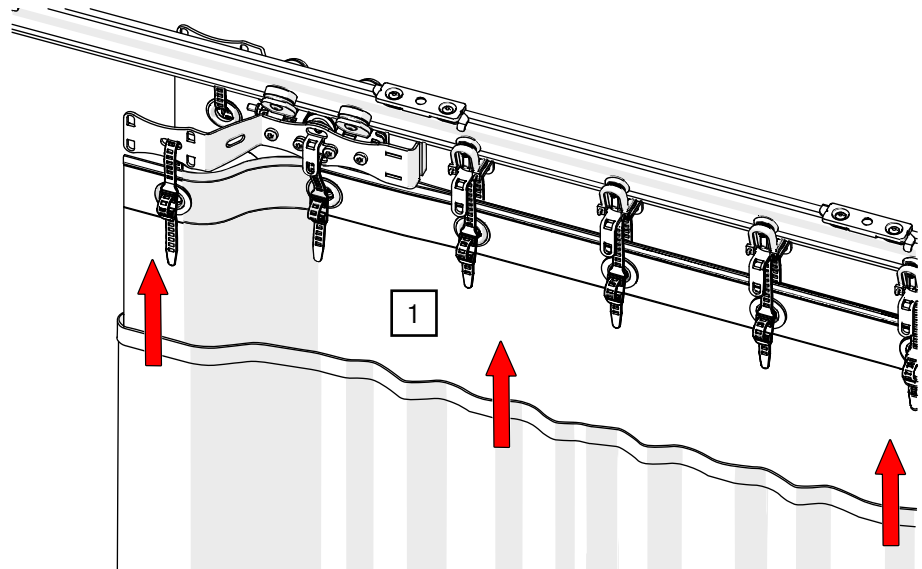
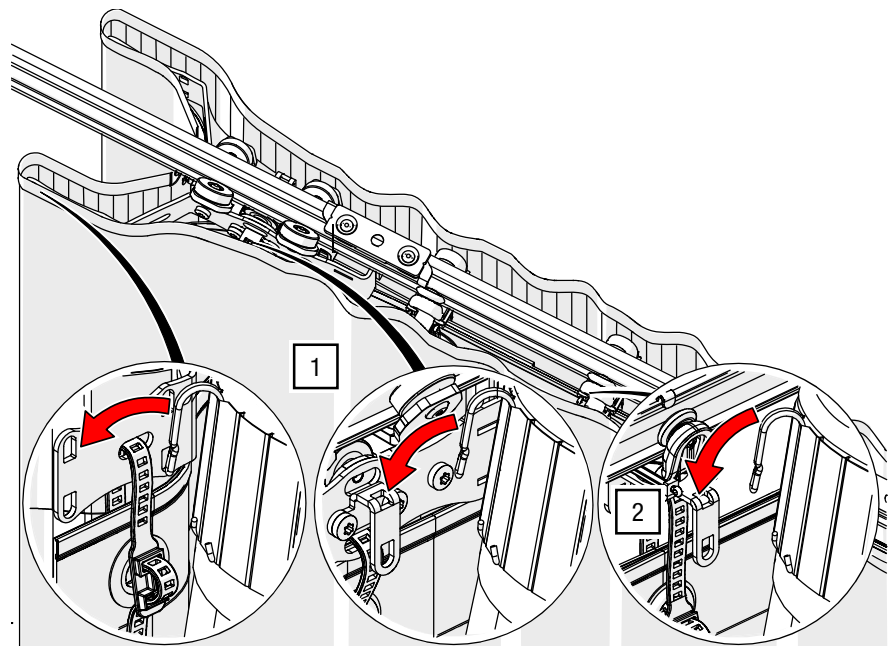
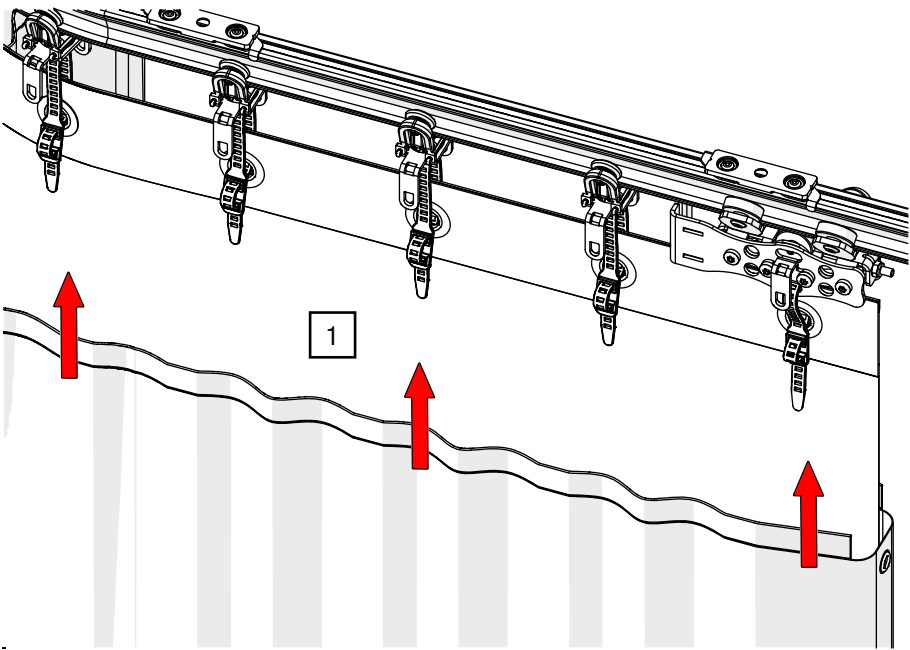
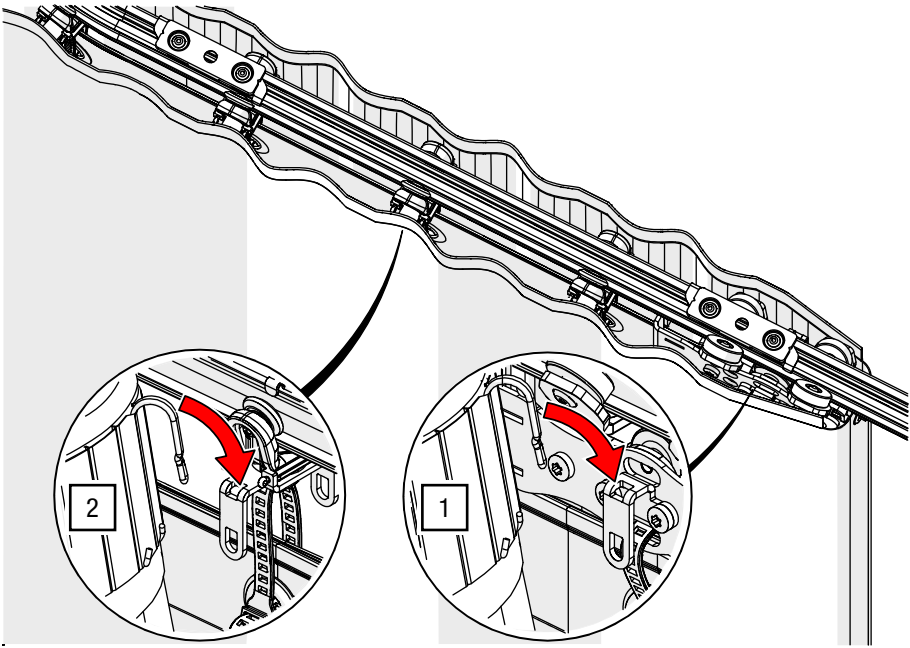

Fig. 113: Master runner with double overlap arm – Lift and position outer layers (1/2)
Fig. 114: Master runner with double overlap arm – Hang outer layers (1/2)
Fig. 115: Master runner – Lift and position outer layers (2/2)
Fig. 116: Master runner – Hang outer layers (2/2)
1. Lift the outer layers and begin to hang the curtain hooks into the eyelets and overlap arms of the master runners (see Fig. 115 and Fig. 116 respectively Fig. 113 and Fig. 114).
2. Hang the outer layers into the following G-TRACK OFFICE double-wheel curtain runners (see Fig. 114 and Fig. 116).